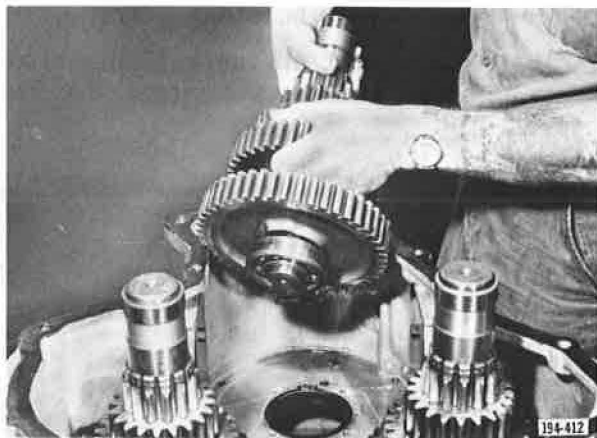

Figure 5-940. Installing Countershafts
1. Position transmission front case in a vertical position, and install three front countershafts. See Figure 5-940.